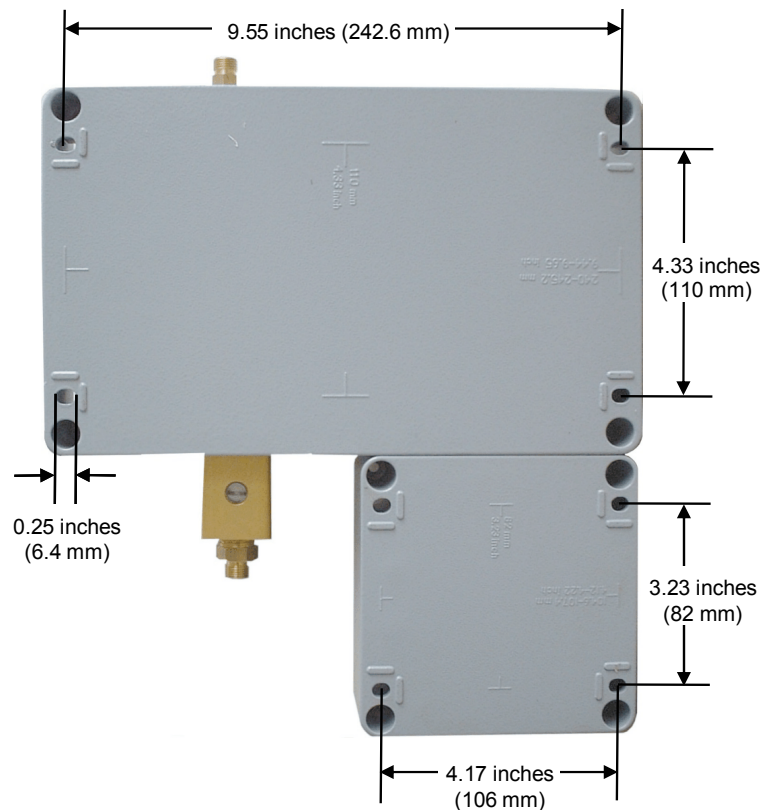

Figure 3: Dripmaster—rear view showing mounting centers
1. In order to mount the Dripmaster, drill four 1/4-inch holes in the metal plate that mounts the Dripmaster according to the drilling template shown in Figure 3.